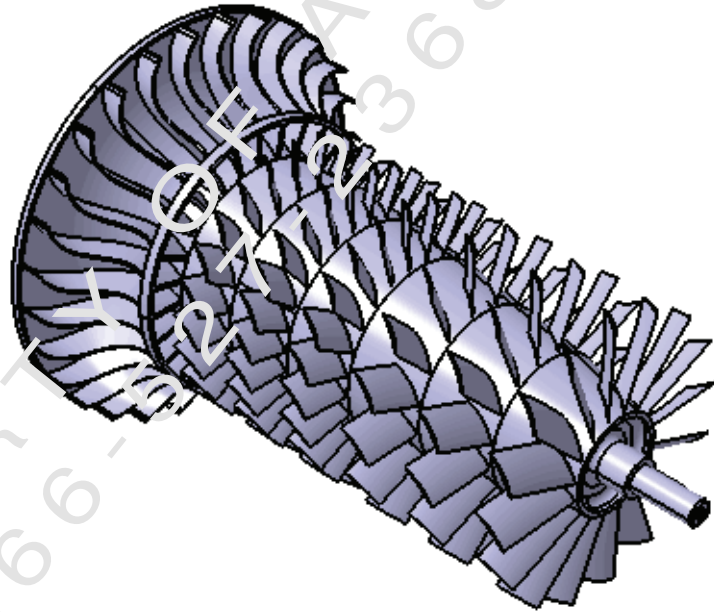

Figure 1–72
1. Open **71499\_Rotor.CATPart**. The model displays as shown in Figure 1–72.